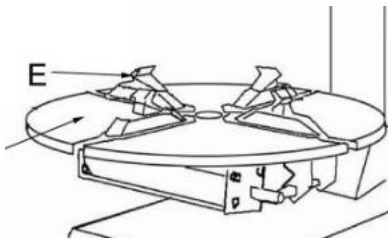

Fig.14.
- Clean the turntable once a week with diesel fuel so as to prevent the formation of dirt, and grease the clamp sliding guides. (Fig.14.)